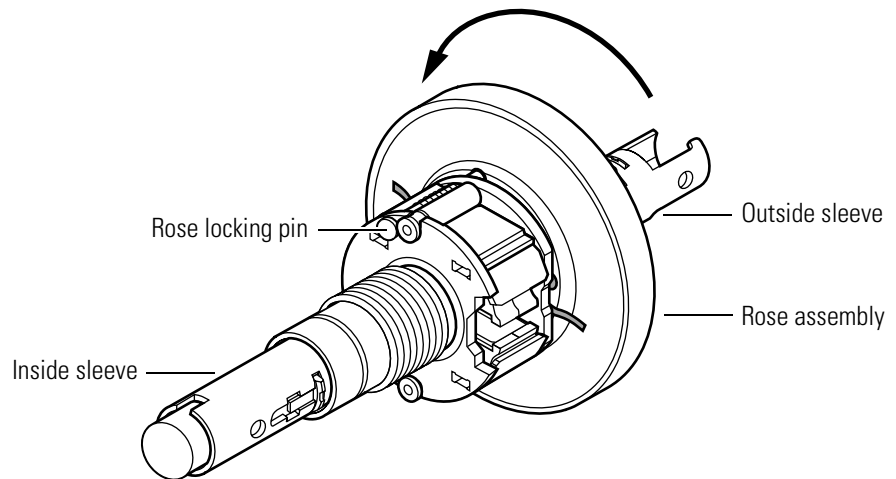

Figure 3.10 Reinstalling the outside rose assembly
1. Retract the rose locking pin. See Figure 3.10. When reinstalling the chassis and rose assembly in the door, rotate the rose assembly until it is positioned so that the chassis is centered in the door and the rose assembly is flush against the door.